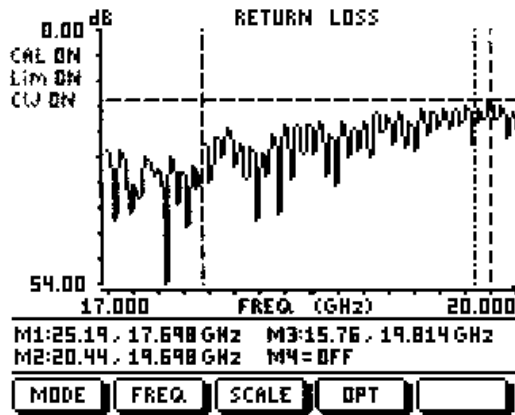

Figure 3-7. Cable Return Loss Measurement Results
**Step 20.** Observe the display measurement. Figures 3-7 and 3-8 show the typical Return Loss and SWR measurement results. (Note that markers and limit lines are activated in the example displays.)
Figures 3-7 and 3-8 (page 3-13) show the typical Return Loss and SWR measurement results with Markers and Limit Line activated.